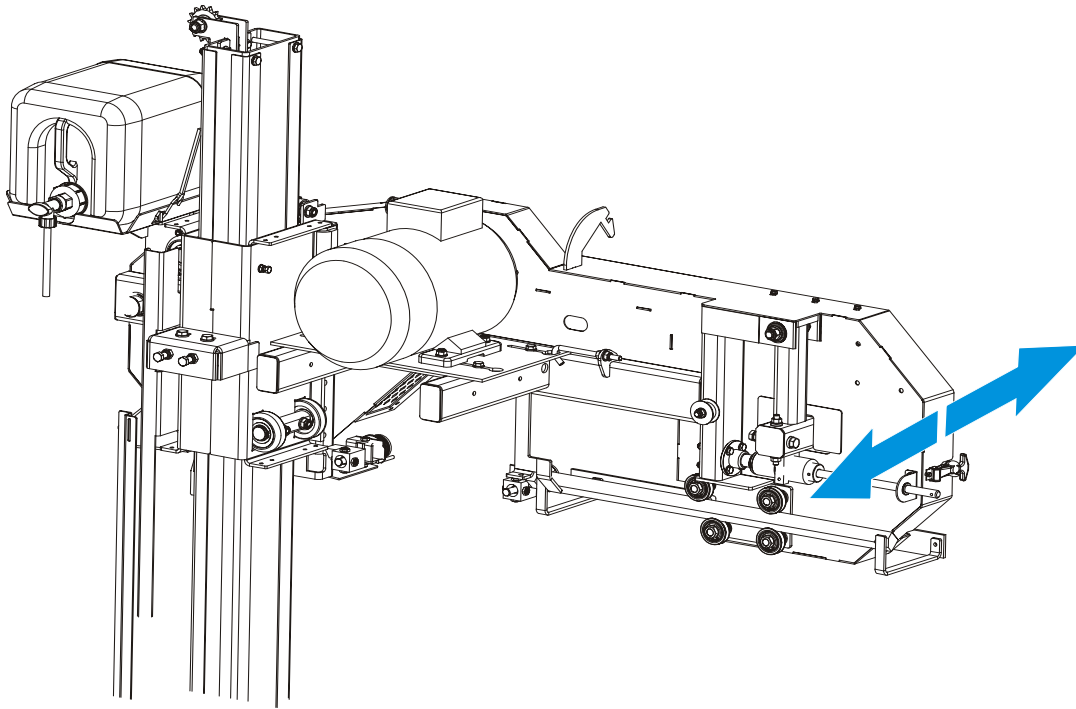

FIG. 5-16
See Figure 5-16. To check if the backlash is present, grasp the outside part of the saw head and move it as shown in the figure below. To remove the backlash, perform the following steps:
1. Loosen the nuts on the adjustment bolts and the set screws shown in Figure 5-16, adjust the mast guide rollers as shown in Figure 5-16.